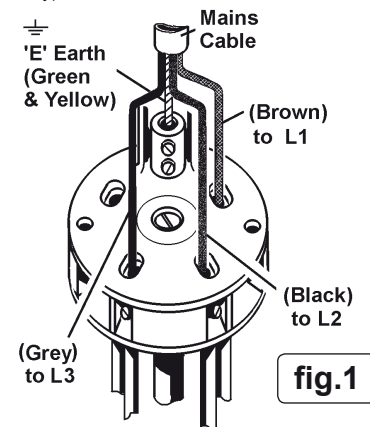

fig.1
- 1.2.1 **This product must be fitted with a 3 phase plug according to figure 1, and will require a minimum of 16AMPS per phase, (preferably 32AMP) electrical supply. You must contact a qualified Electrician to ensure an appropriately fused supply is available.**